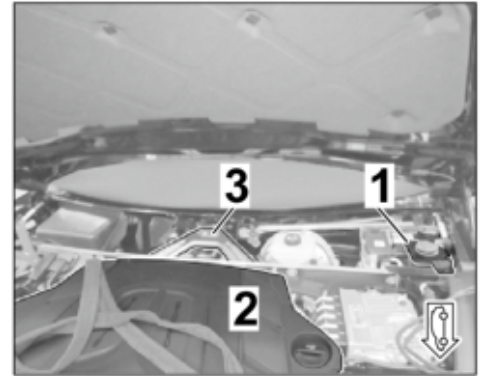

Figure 6
- 1.3.1 Remove engine cover (design cover) (⇒ Figure 6 -2-). ⇒ Workshop Manual '108319A6 Removing and installing engine cover - TB5'